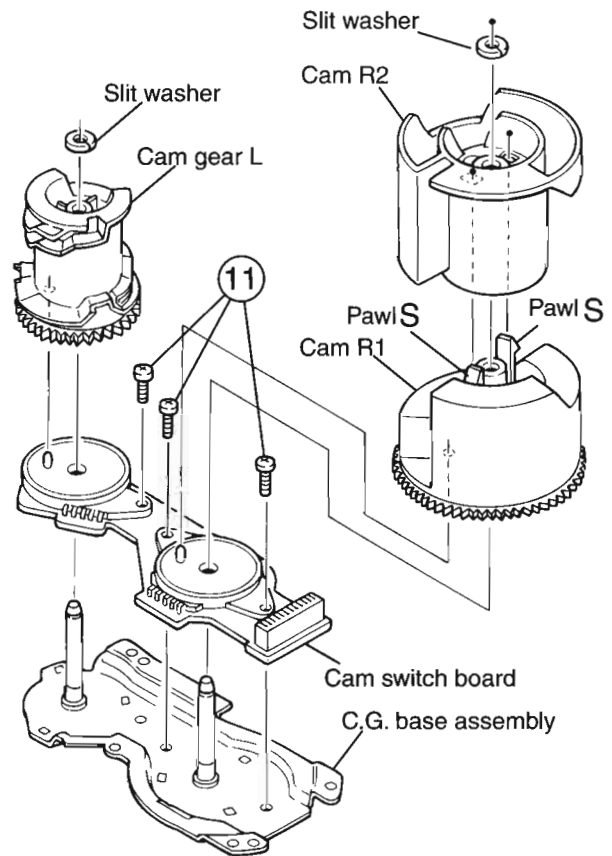

Fig.22
**[Note]** When the chassis assembly is turned over under the conditions wherein the gear bracket and belt have been removed, then the pulley gear as well as the gear, etc. constituting the gear unit can possibly be separated to pieces. In such a case, assemble these parts by referring to the assembly and configuration diagram in Fig. 22.
**■ Removing the cams R1/R2 assembly and cam gear L (See Fig.22)**
**■ Removing the C.G. base assembly (See Fig.22 and 23)**